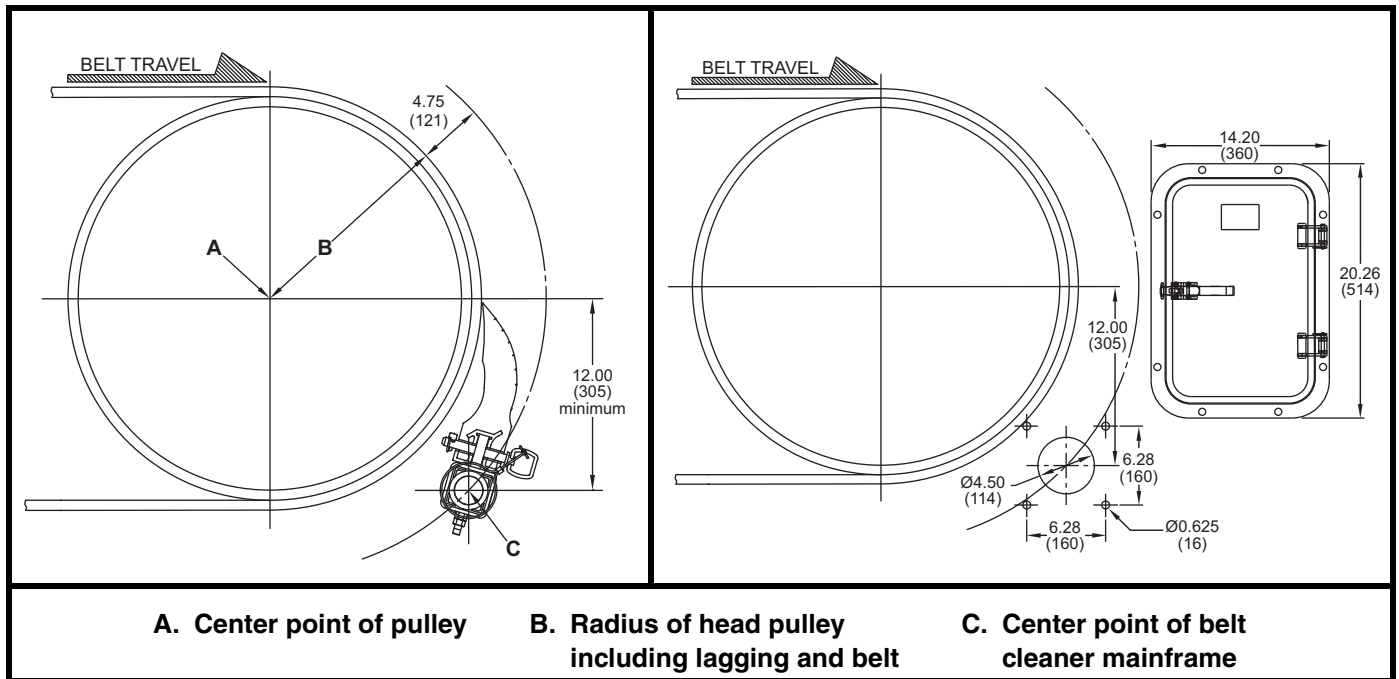

Figure 2. Belt Cleaner Mainframe Location & Chute Wall Cutouts
1. On operator side of chute, find pulley center point (A).
2. Measure radius of head pulley including lagging and belt thickness (B). To this dimension, add 4.75 in.
3. Starting from center point (A), measure the total distance calculated in step 2 (B + 4.75 in.) and draw an arc on chute wall.
4. Measure down from pulley's horizontal centerline the distance shown in Figure 2 and draw a horizontal line parallel to it. Locate center point of belt cleaner mainframe (C) where this line intersects the arc on the chute wall.